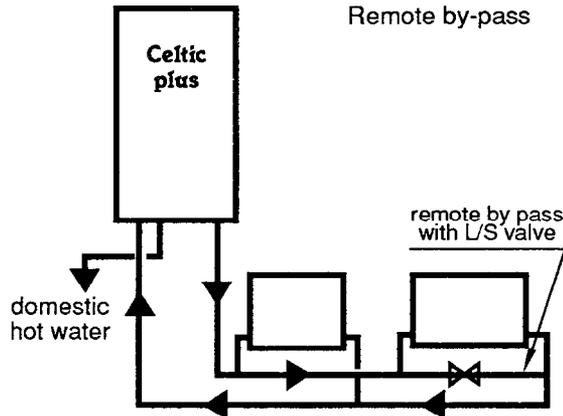

Fig. 39
Fig. 39 a
Fig. 39 b
It is possible if required, to have the pump running continuously by turning the switch ① anti-clockwise, see fig. 39 b. The room thermostat then only switching the burner on and off.